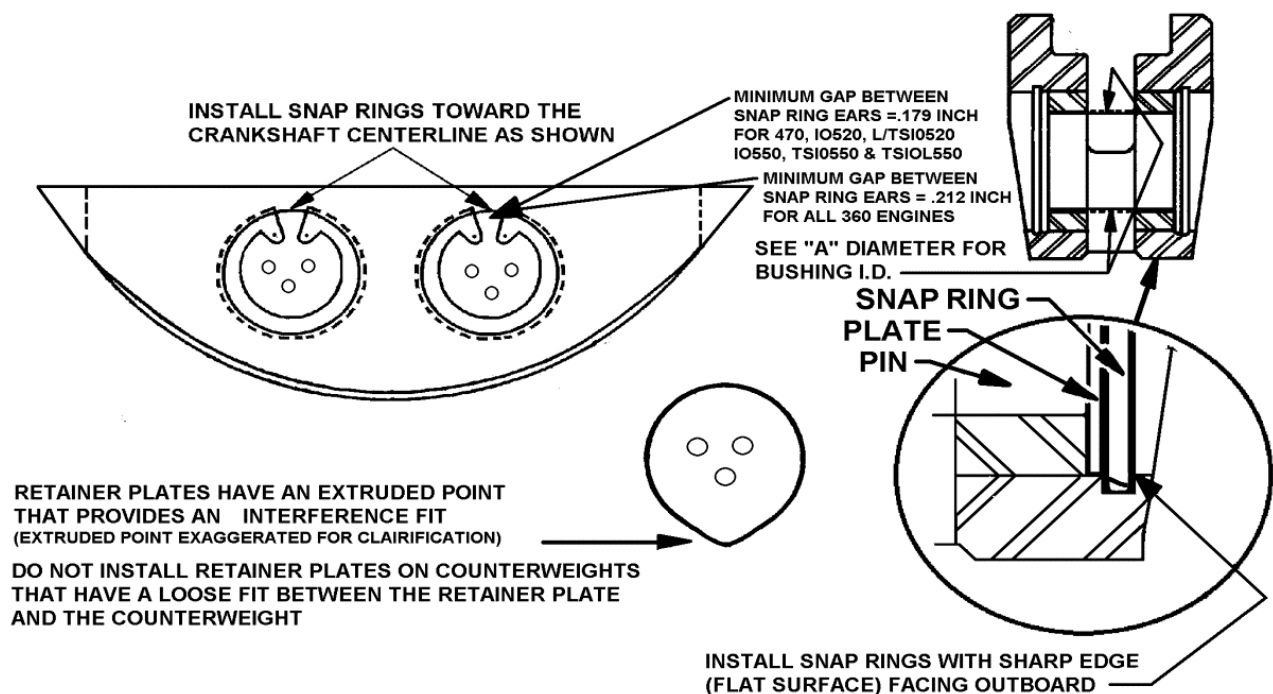

FIGURE 5A. COUNTERWEIGHT BUSHING REPLACEMENT AND ASSEMBLY FOR 360, 470, IO-520, L/TSIO-520, IO-550, TSIO-550, TSIOL-550 CRANKSHAFTS
Figures 5A and 5B for specifications regarding counterweight bushing removal and replacement. The replacement bushings must have an interference fit of .0015 to .003 inch into the bushing bores.
- a) Because of the close tolerances required, the replaced bushings must be inspected using an air gauge with correct size air plug and setting ring. Refer to Figures 5A, 5B and 6.